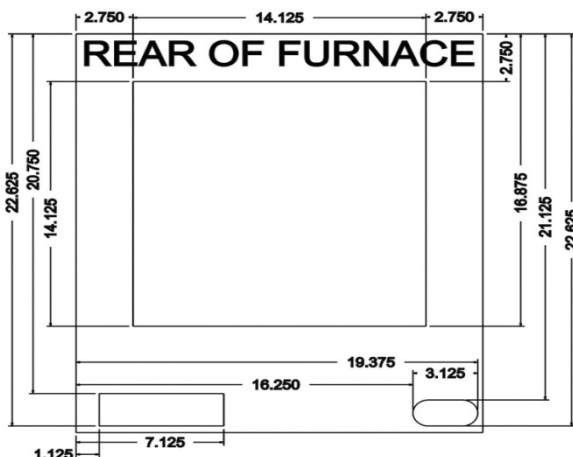

Figure 8: Duct Connector Measurements
5. Install the floor base over the floor opening with the flanges on the 11 x 13 inch opening facing down. Refer to Figures 8 and 9.
6. Locate the four (4) screws provided with the duct connector kit and install the four screws through the four holes provided in the floor base to secure the floor base to the floor.